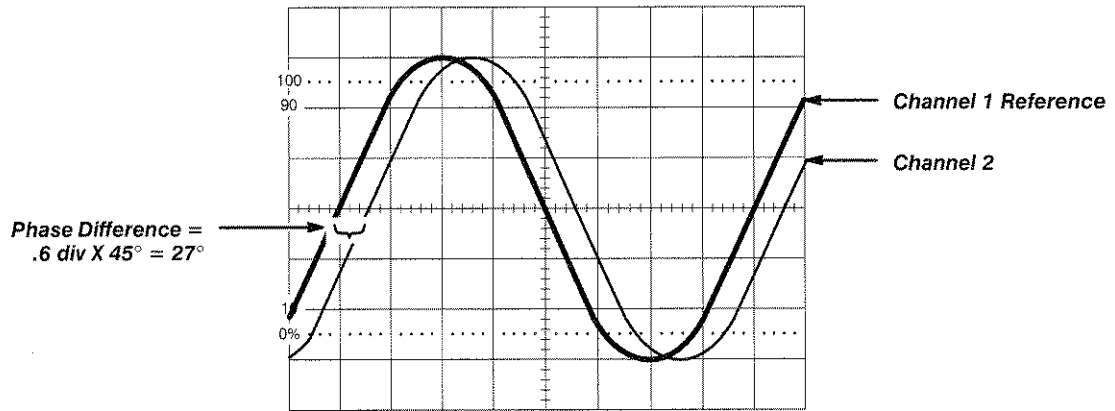

Figure 3-40: Measuring Phase Difference
- Step 8:** Measure the horizontal difference in divisions between the signals and multiply it by 45° (Figure 3-40).